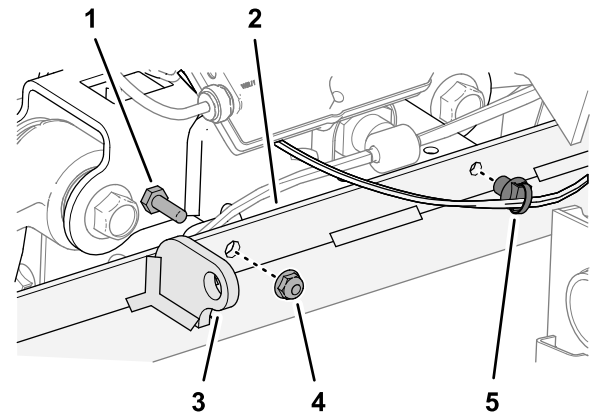

Figure 87
2. Remove the capscrew (1/4 x 3/4 inch) and flange locknut (1/4 inch) from the flange of the machine frame as shown in Figure 87.
3. Remove the push-in fastener that secures the wire harness of the flange of the machine frame (Figure 87).